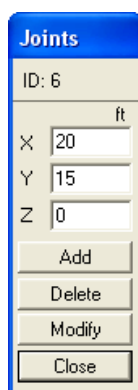

Figure 5-16 Joints dialog box
- From the **Edit** menu, choose **Joints**. The modeless dialog box of Figure 5-16 appears. Some text boxes may not be available, depending on the structure type selected.